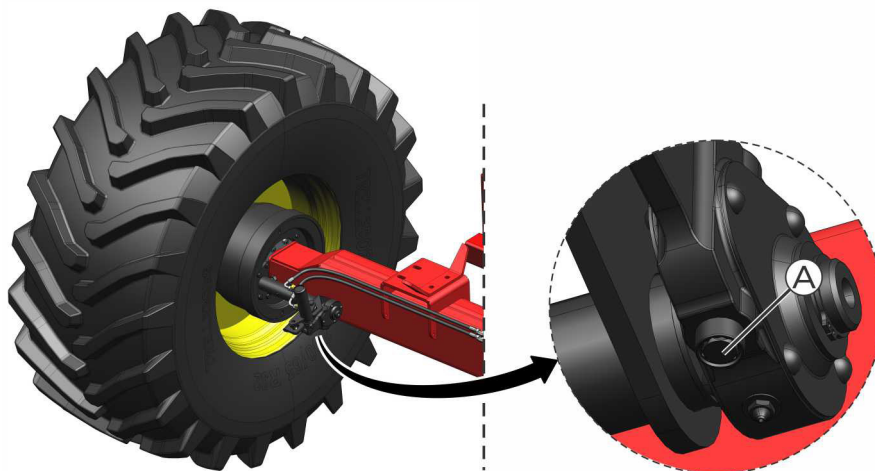

fig. 20
- The adjustment is made through the hex head bolt (A) (fig. 20), positioned at the bottom of the set. Tightening must be carried out progressively, until the desired braking is obtained. Make sure the wheel turns loose and lightly when the brake is not applied.